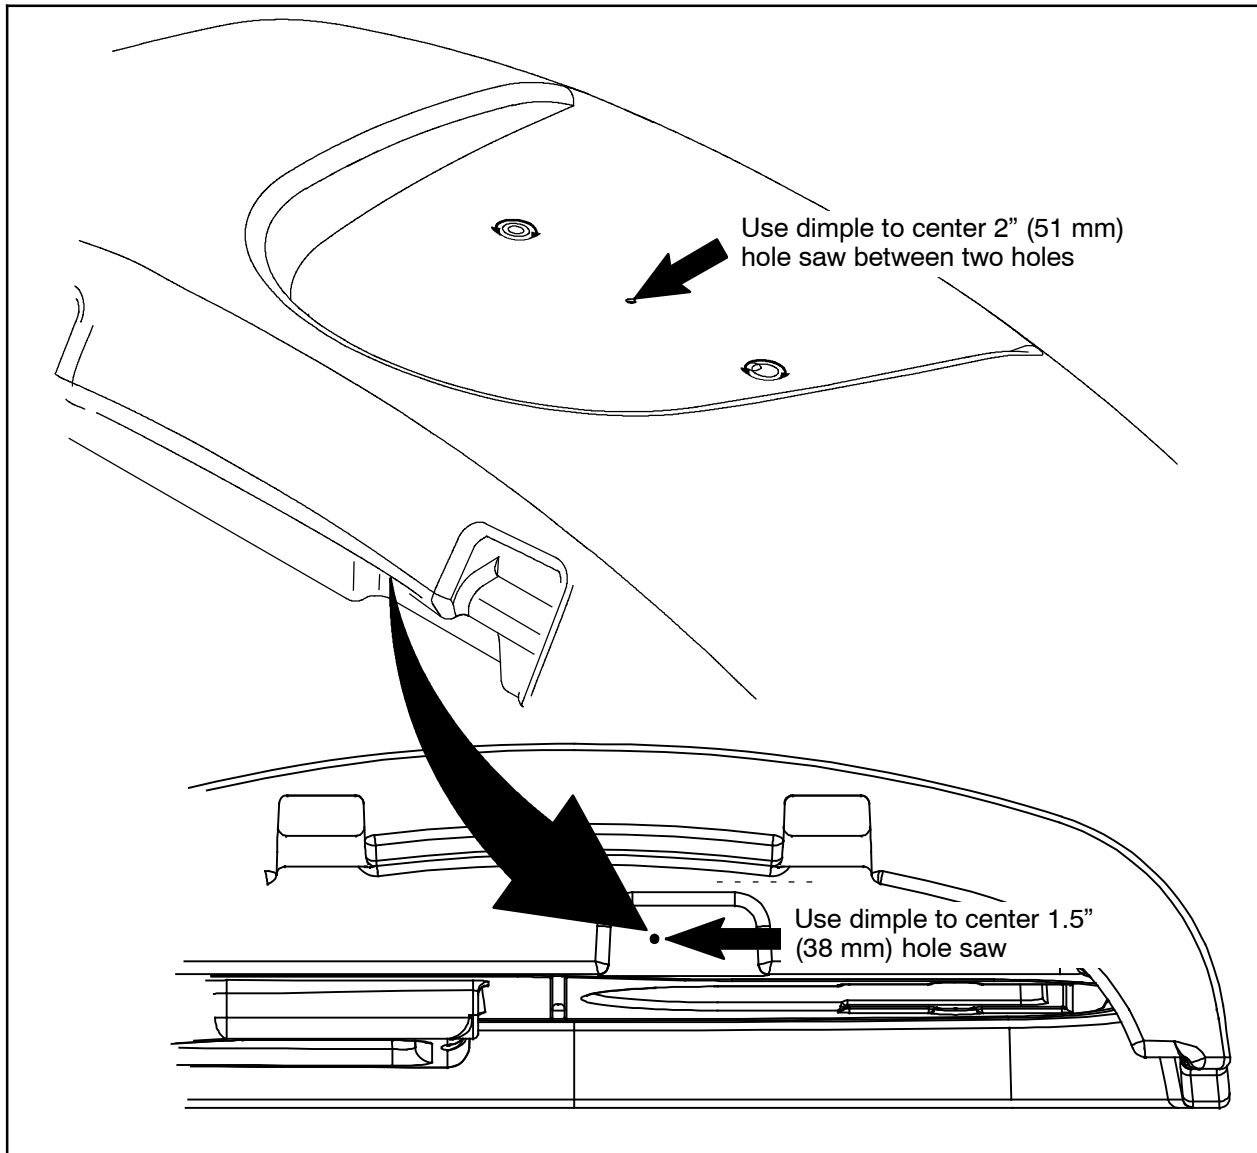

FIG. 2
3. Use a 2" (51 mm) hole saw to cut a hole through the top of the recovery tank cover. **Do Not** cut into the bottom of the recovery tank cover. (Fig. 2)
4. Use a 1.5" (38 mm) hole saw to cut a hole through the front of the recovery tank cover. (Fig. 2)